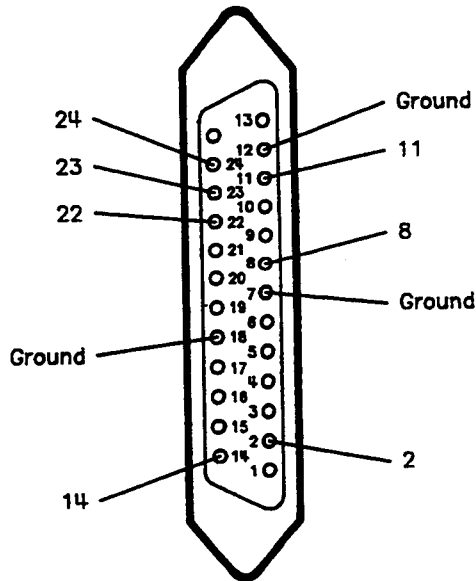

Figure 3. Analyzer Rear Panel Test Set Interconnect Connector Pins
4. Measure the DC voltage at pin 14 (see Figure 3) of the analyzer rear panel test set interconnect connector.
The analyzer controls the test set attenuator, the transfer switch (for forward and reverse measurements), and, in the case of the HP 85047A, the frequency doubler. The associated test set interconnect connector pins are shown in Figure 3; refer to it as needed.
Attenuation Control Voltages. Voltage levels on the pins identified in Table 2 control test set attenuation. Press **[MENU] [POWER] [ATTENUATOR PORT 1]** and enter the attenuation values listed below. After each entry, check the pins (see Figure 3) for the indicated voltages.
Measurement Control Signals. Voltage levels on the pins identified in Table 3 control measurement direction (forward or reverse) and the doubler function (on or off). Press **[MEAS] [S-PARAMETERS]** and enter the measurements listed below. After each entry, check the pins (see Figure 3) for the indicated voltages. In similar fashion, change the frequency range (to 6 GHz or 3 GHz) by pressing **[SYSTEM] [FREQ RANGE 3GHz6GHz]** and check the pins for the indicated voltages.